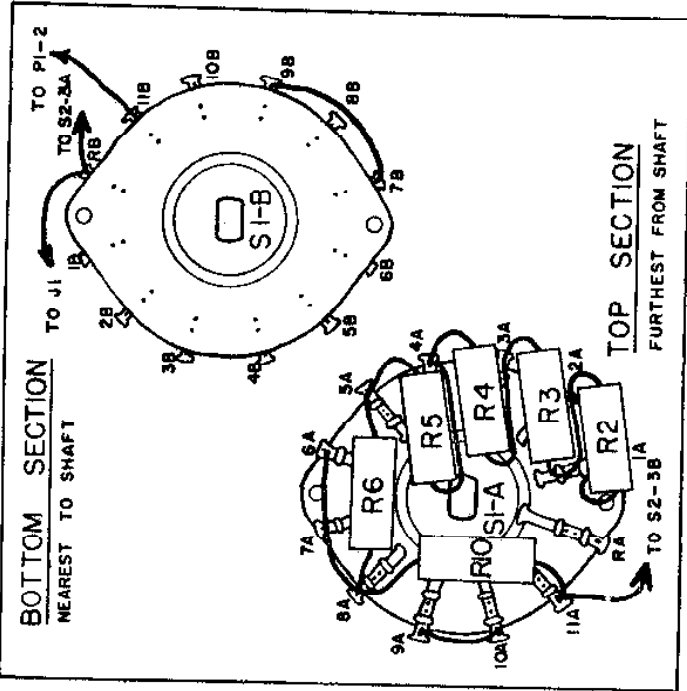
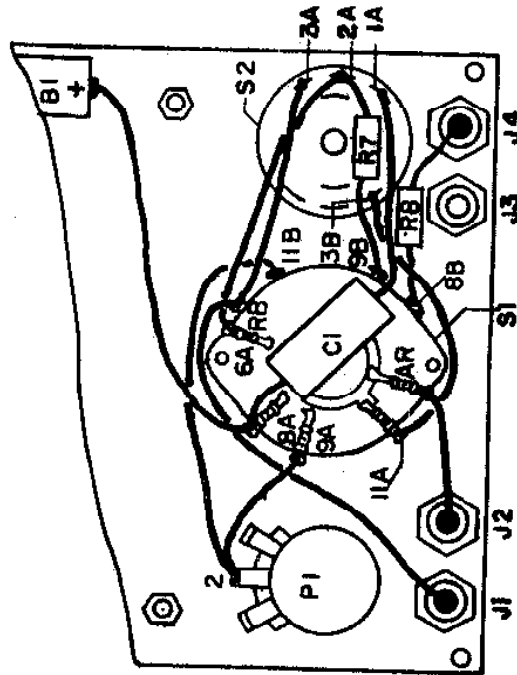

FIGURE 1
FIGURE 2
- 2) Refer to Assembly Print No. 2. Prewire the range switch S1 as instructed and shown in Fig. 1. Mount the prewired range switch as instructed and complete the final wiring as instructed and shown in Fig. 2.
To position switch S1 to correspond to the view shown of it in the prewiring diagram, Fig. 1, and Fig. 2: turn the whole switch in your hand, keeping the shaft pointed away from you, until the long (rotor) contact, RA, of switch S1-A is at your lower left, and the long (rotor) contact, RB, of switch S1-B is at your lower right. Note: Switch S1-A is formed of the contact members and rotor fastened to the top of the wafer (nearest you), and switch S1-B is formed of the contact members and rotor fastened to the underside of the wafer (furthest from you).